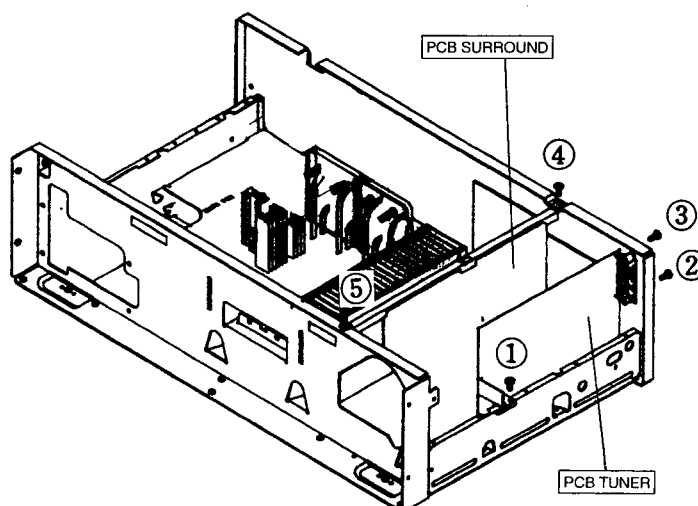

Figure 5
**[8] Tuner P.C Board Removal (Figure 5)**
2. Remove a screw ① from the Tuner P.C Board bracket.
4. Remove 2 screws (② and ③) from the chassis back.
**[9] Surround P.C Board Removal (Figure 5)**
3. Remove 2 screws (④ and ⑤) from the chassis back and chassis front.